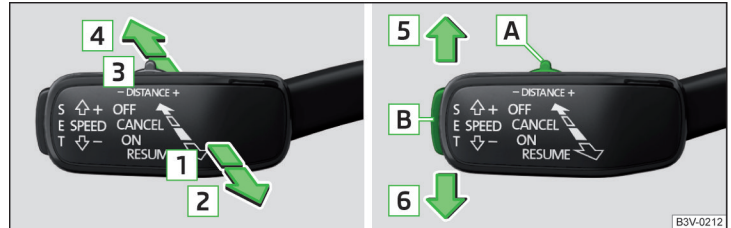

Fig. 194 Operating lever
Overview of ACC functions operated with the lever » Fig. 194
- Press the button **SET** » Fig. 194 on page 150 button.
- **or**: set the lever in the sprung **RESUME** » Fig. 194 on page 150 position.
- Set the lever into the sprung position **CANCEL** » Fig. 194 on page 150 position.
The desired speed can be set or changed using the control lever » Fig. 194 on page 150.
The proximity to the vehicle ahead can be set with the lever » Fig. 194 on page 150 or in the Infotainment » *Owner's Manual - Infotainment*.
- Set the switch **DISTANCE** to the sprung position - or + » Fig. 194 on page 150.
Acceleration can be cancelled at any time by touch on the brake pedal or pressing the button **CANCEL** on the lever » Fig. 194 on page 150.